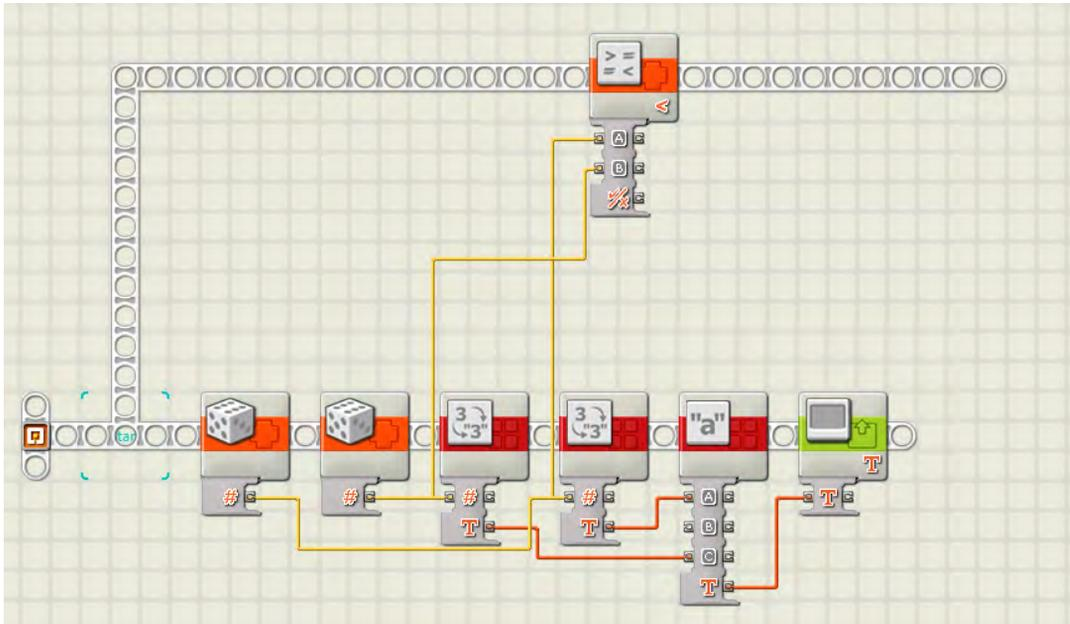

Figure 15-7. Use the original number values as input for the COMPARE block.
Carefully drag a data wire out of the second NUMBER TO TEXT block (the fourth one from the left) and into value A's input data plug. Do the same for the first NUMBER TO TEXT block (the third from the left) but drag this wire into value B's input data plug. This configuration is shown in Figure 15-7.
■ **Note** Sometimes NXT-G will try to fix your wiring to keep it from becoming a tangled mess. In Figure 15-7 you might notice that the wires coming out of the RANDOM blocks have been split. This happened automatically for me, even after I dragged the wire out of the NUMBER TO TEXT block. After I released my mouse button to complete the wire, NXT-G changed it so the RANDOM block wire split.